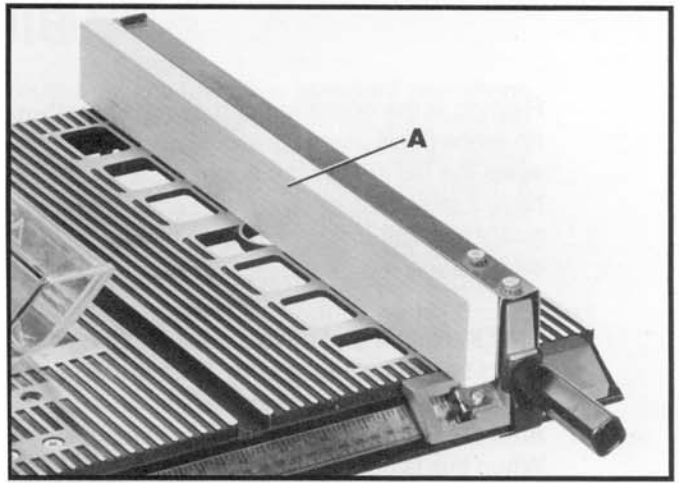

Fig. 34
It is necessary when performing some special operations to add wood facing (A) Fig. 34, to one or both sides of the rip fence, as shown. The wood facing is attached to the fence with wood screws through the holes in the fence. 3/4 inch stock is suitable for most work although an occasional job may require 1 inch facing.